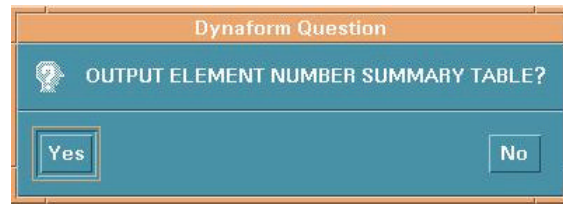

Figure 6.3.19 Element Number Table Question
- Answer the DYNAFORM Question window, see Figure 6.3.19.